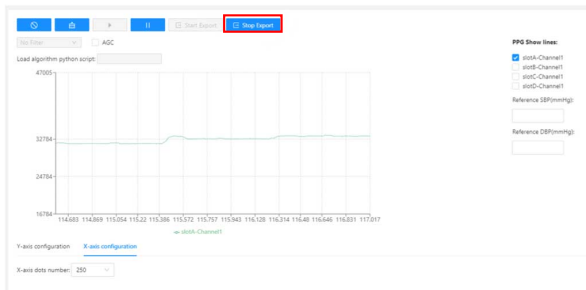
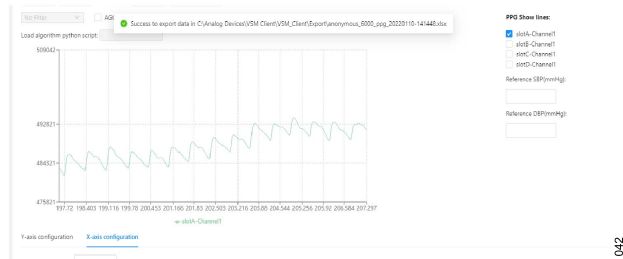

Figure 41. Stop Export
Figure 42. Export Successful
5. Click **Start Export** to begin exporting the data received (see Figure 40), and click **Stop Export** to stop exporting the data locally (see Figure 41). The exported data is saved in an .xlsx file. Before clicking **Stop Export**, clear the **Enable Y-axis Adaptation** check box. If this check box is selected, the data may fail to save. If the export is successful, a **Success to export data** pop-up appears (see Figure 42) noting the location of the .xlsx file as follows: **C:\Analog Devices\VSM Client\VSM_Client\Export**. In the **Export** folder, the file name notes the date, time, and corresponding function of the export (see Figure 43).